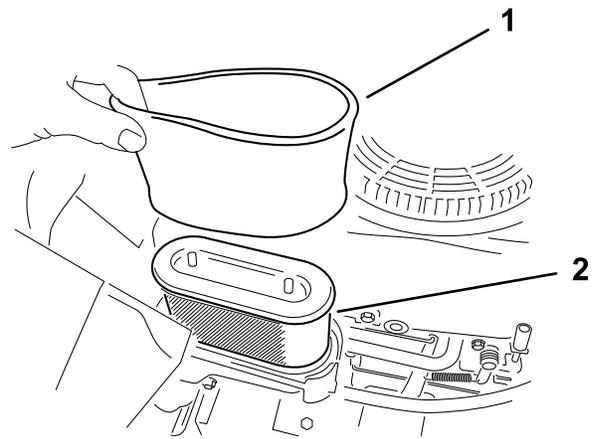

Figure 32
Note: If it is very dirty, replace the paper element (Figure 32).
5. Carefully remove the foam and paper filter elements from the air-cleaner housing (Figure 32).
1. Install the foam filter onto the paper filter (Figure 32).